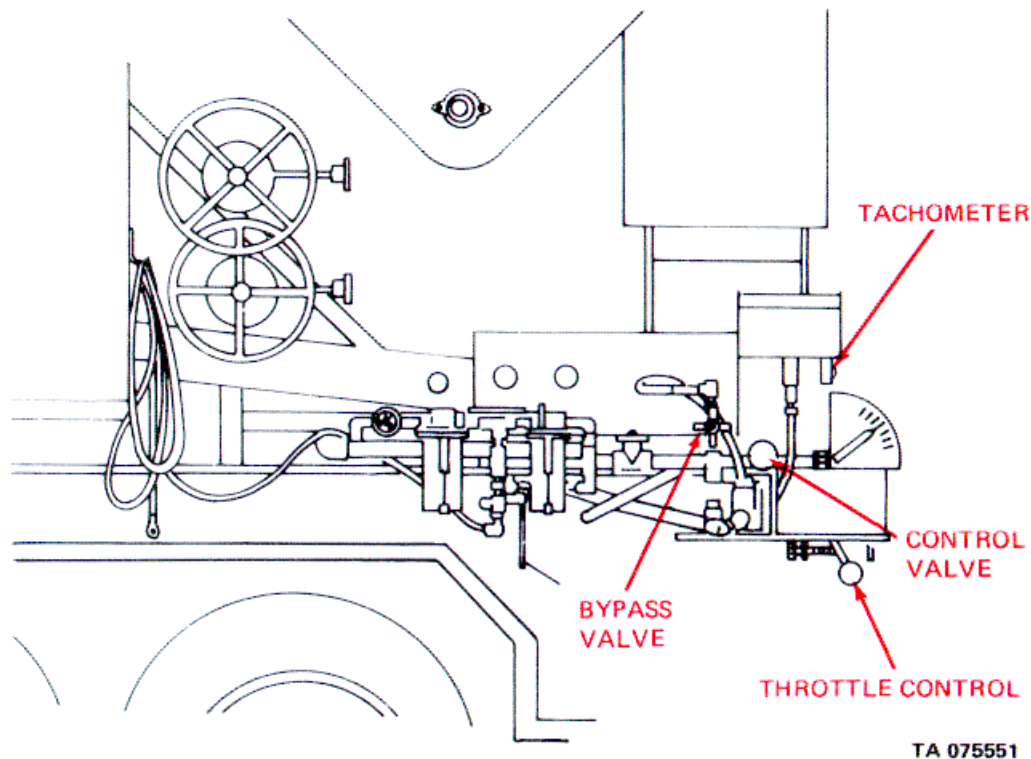

Figure 3-4. Throttle Control and Bypass Valve.
- (1) Adjust throttle control until tachometer reads 1620-1720 rpm (fig. 3-4).
- (2) Press the LOWER button until the mixing trough is level (0° angle).
- (3) Open the control valve (fig 3-4) Allow the auger to carry excess concrete out of the trough.
- (9) Move the hose closer and rinse all areas thoroughly.
- (10) Close the control valve and the bypass valve (fig. 3-4).
- (11) Close the trough guards.
- (12) Raise the mixing trough and clean the underside of trough and motor.